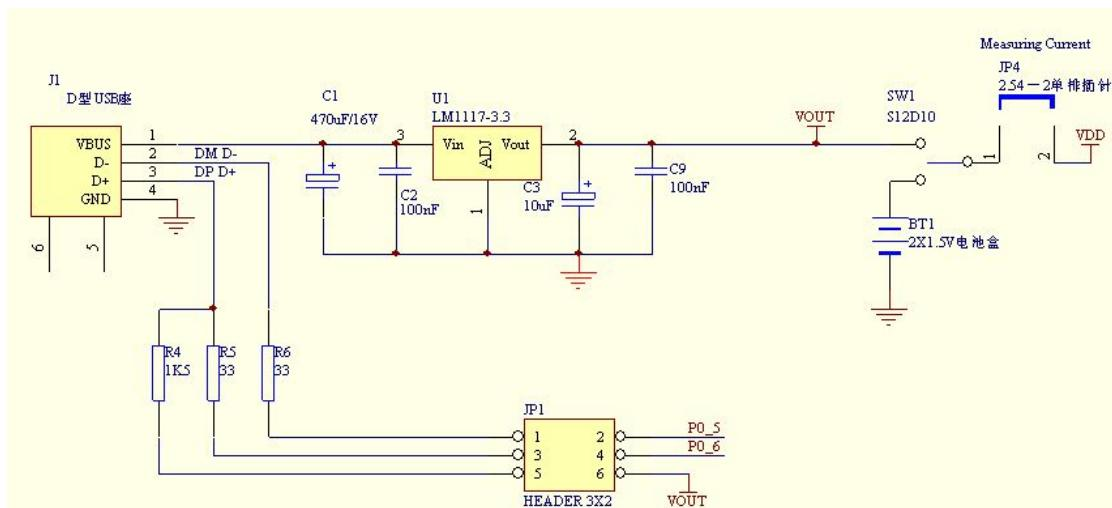

Figure 4: GB-DEVB development board nine-pin serial cable connection
- 3、For the serial tools observation data, the nine-pin serial cable with the development board and connected to the PC, as Figure 4. Through the serial port to send data in the JP2 "TX / DI" is connected to the microcontroller serial transmit pin; contrary, "RX / RD" need microcontroller serial receive pin relative to serial.